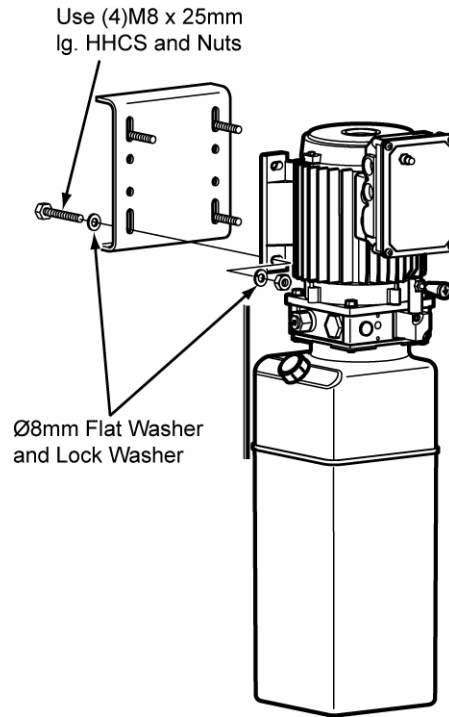

Figure 2-9. Power Unit Installation
1. Install the power unit as shown in figure 2-9 using the following parts from the parts list:
1. Refer to figure 2-9 and install the air valve (parts list item 11) on control post with provided hardware. There will be two small holes on the control post for mounting screws.